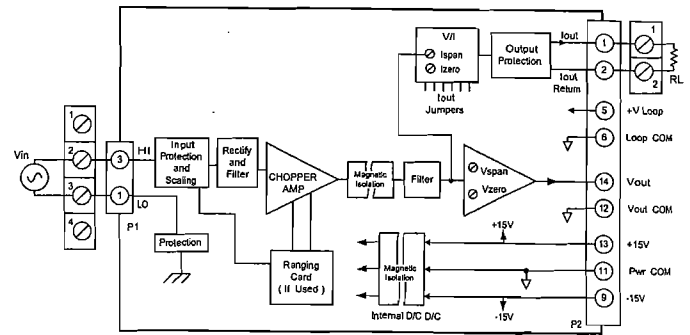

Figure 2.1.12.1 3B42, 3B43 and 3B44 Functional Block Diagram
Figure 2.1.12.1 shows a functional block diagram for models 3B42, 3B43 and 3B44. Input protection of up to 220V rms (550V rms for model 3B44) is provided on the input screw terminals. Each module uses an ac averaging technique. The input signal is rectified, filtered and scaled to give an rms reading for a sine-wave input. This scaling is not accurate for other input waveforms. Transformer coupling is used to achieve stable, galvanic isolation between input and output. Both the voltage and current outputs can be independently adjusted over a  $\pm 5\%$  span range for zero and span with front panel accessible potentiometers. The current output, which has 130V rms output protection, interfaces with user equipment through screw terminal connections.
1. Connect the unit as shown in Figure 2.1.12.1 with  $R_L = 250\Omega$ .